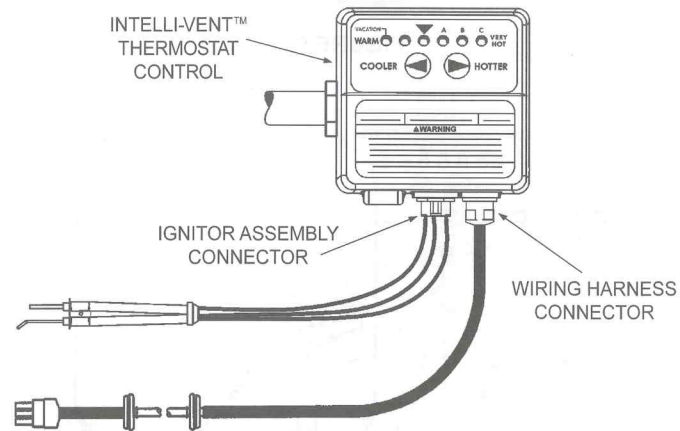

FIGURE 12.
17. Locate the wiring harness and connector that comes out of the water heater's jacket and plug the connector into the Intelli-vent™ Thermostat Control, (184960 Series), see Figure 12.
18. When replacing a 184960 Series gas control with a 184960 Series Gas control, the Ignitor Assembly Connector plugs directly into the gas control, see Figure 12.